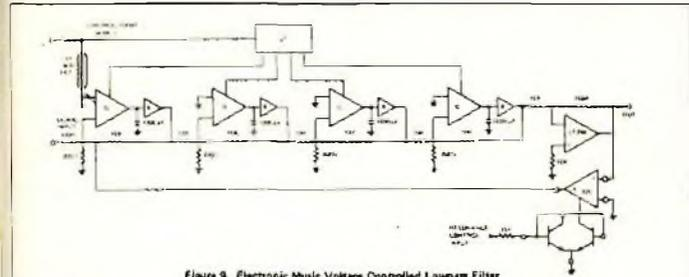

Figure 9. Electronic Music Voltage Controlled Lowpass Filter
- Control input sensitivity tempco is cancelled best by a +3300 ppm resistor (Tel Labs Q81 or equiv.) as shown in Figure 9.
Figure 9 is a voltage controlled lowpass filter with voltage controlled resonance for electronic music applications. The frequency control input sensitivity is 1 volt/octave, ten-pole.